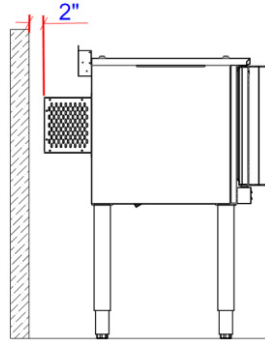

Fig.1
4. Install the unit at least 5cm from the wall if the wall does not bear a minimum temperature of 150 °C (see Fig.1). If the unit is placed very close to the wall, partition walls, kitchen cabinets, decorative walls, etc., we recommend that they are made with a non-combustible material with a proper thermal insulation. Pay a lot of attention to regulations concerning fire prevention.